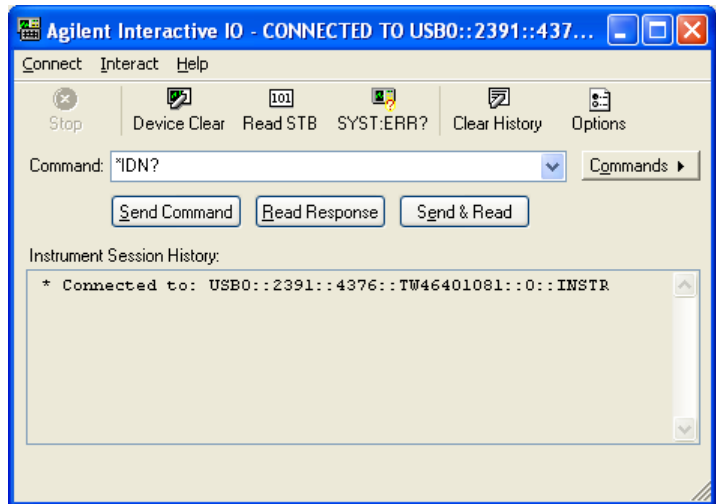

Figure 2-6 Interactive IO dialog box
- 5 The **Agilent Interactive IO** dialog box will appear as shown in Figure 2-6. Click **Send & Read** to send the “*IDN?” default command. This instrument’s response should appear in the **Instrument Session History** panel.